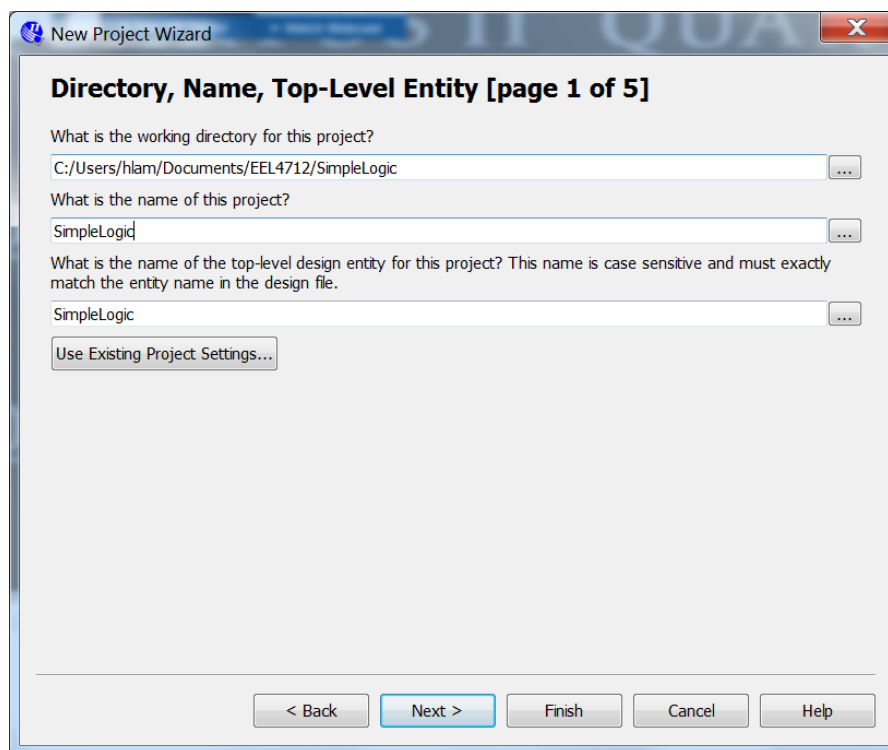

Figure 1
2. Start by creating a new directory and project name, shown in **Figure 1**. Save it somewhere you can access it easily (e.g., .../Documents/EEL4712/SimpleLogic). Then click next.